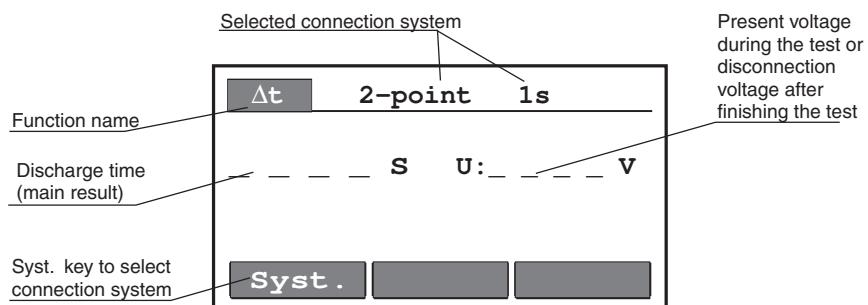
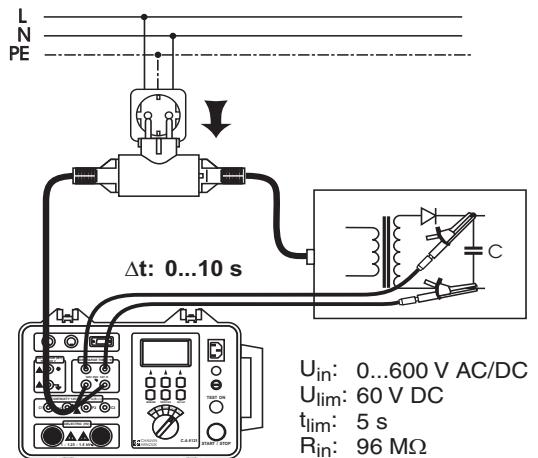

Fig.21. Basic screen in  $\Delta t$  position
Fig.26. Connection of the test leads
1. Set the rotary switch to  $\Delta t$  (discharge time) position; the screen in fig.21 is displayed.
2. Select 4-pole system by pressing the SYST. key (4-point 5s is displayed)
3. Connect the test cables to the instrument and to the tested unit in accordance with figure 26; le  symbol is displayed above unit S, informing the user that the mains voltage is connected to the MAINS TEST input